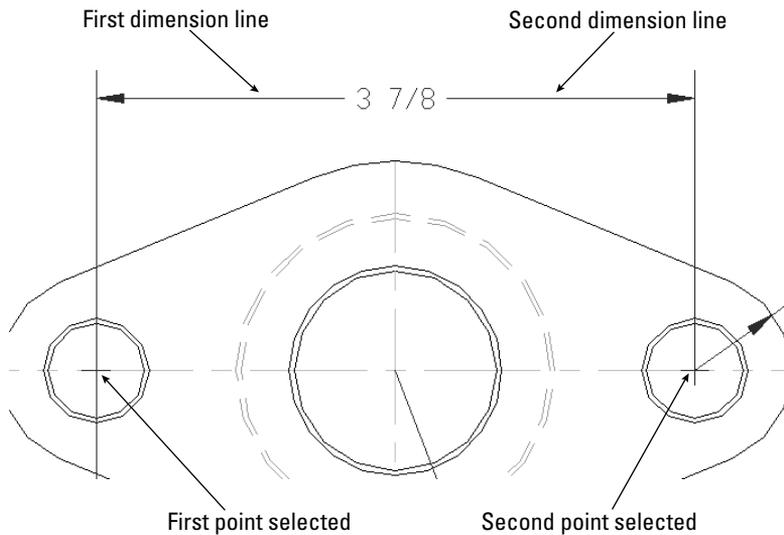

Figure 15-5: A typical mechanical dimension with text splitting two dimension lines.
In some dimension styles, the dimension text splits the dimension line into two parts, as shown in Figure 15-5. This creates two dimension lines. You can suppress—that is, turn off—the first or second dimension line (or both dimension lines) by checking the appropriate box (or boxes). The first line is nearest where you specified the first extension-line origin. (If you selected an object instead of specifying two extension-line origins, you may not be able to predict which dimension line is the first and which is the second. Experiment.) You would usually suppress dimension lines when they interfere with other dimensions or with objects in your drawing.
- ♦ **Centered:** Centers the text in the dimension line, breaking the dimension line into two. This is typical for mechanical drafting. You can see an example in Figure 15-5.